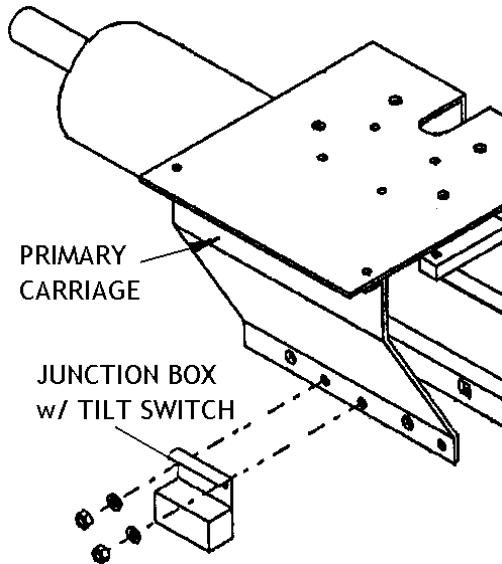

Fig. 16 – Tilt switch placement on primary carriage
- 23 Bolt junction box with attached tilt switch onto bottom of motor side of primary carriage using 5/16" x 1" bolts (pointing out through carriage) and 5/16" lock washers and nuts provided on junction box. Tighten using 1/2" wrench. See Fig. 16.